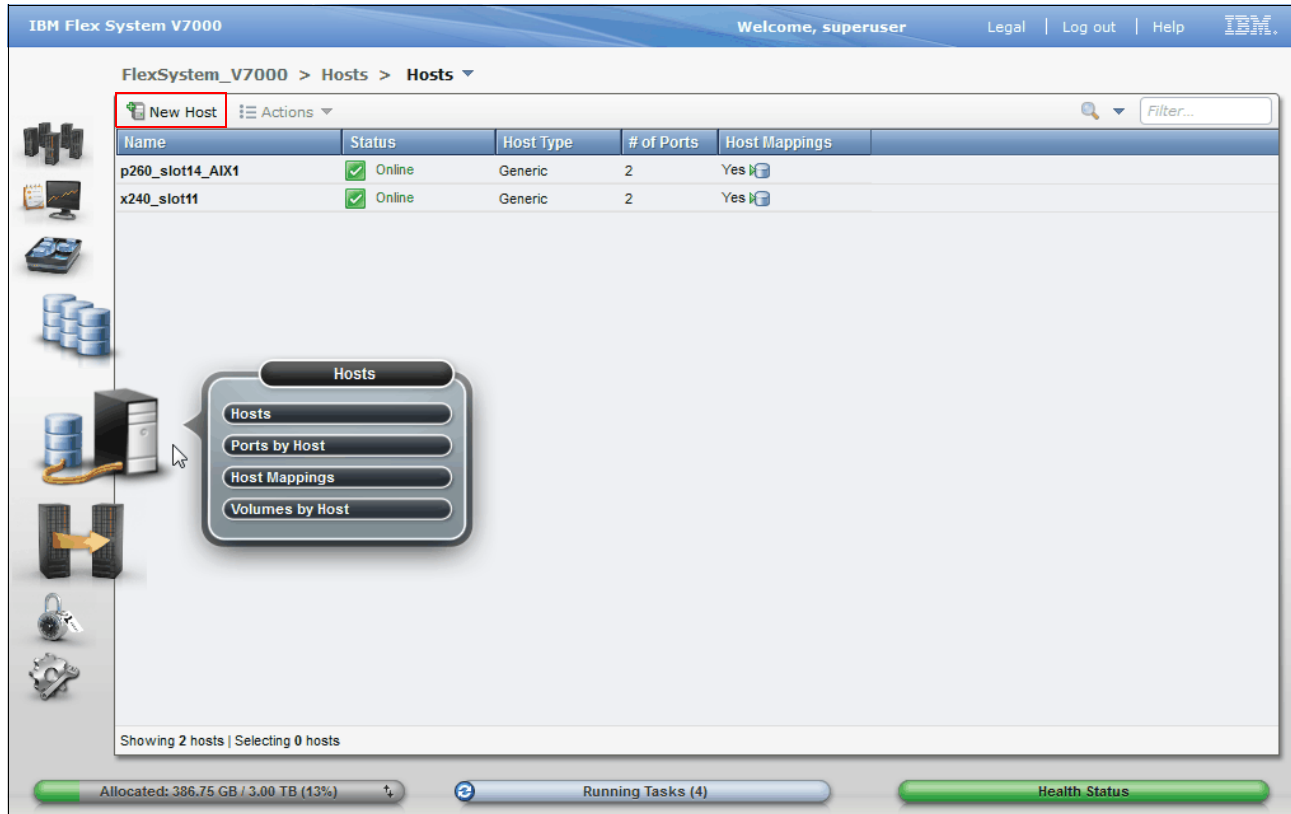

Figure 6-23 The Hosts menu - create new host
1. Navigate to the **Hosts** tab of the IBM Flex System V7000 Storage Node GUI and click **New Host** as shown in Figure 6-23 on page 257.